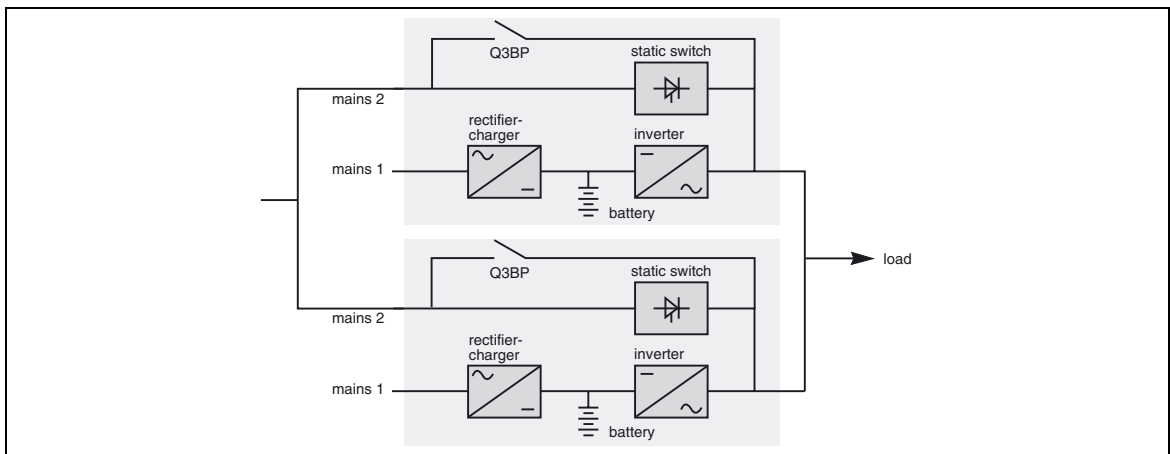

Fig. 2
- Multi-bypass modular UPSs: (figure 2)